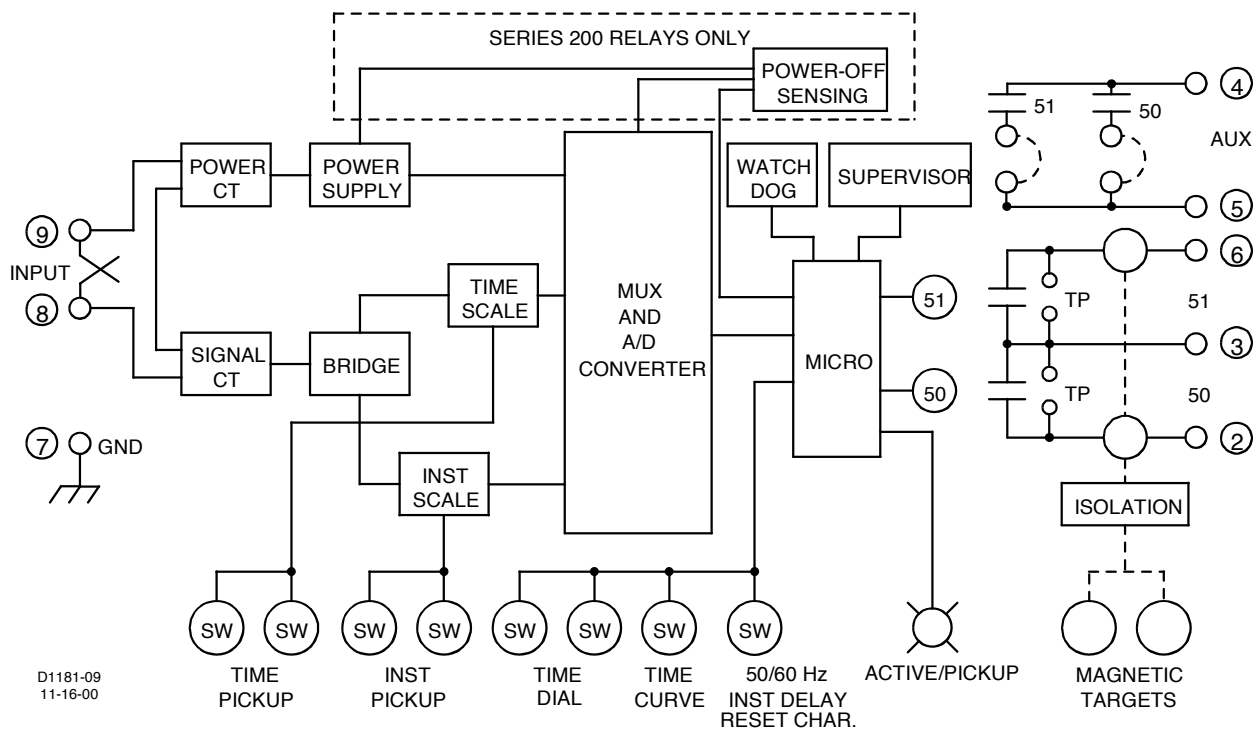

Figure 3-1. Functional Block Diagram
Single phase ac current from system current transformers (CT) is brought into the BE1-50/51M Overcurrent Relay at terminals eight and nine. Refer to Figure 3-1 to follow the functional description. The input current is applied to internal power and signal CTs.